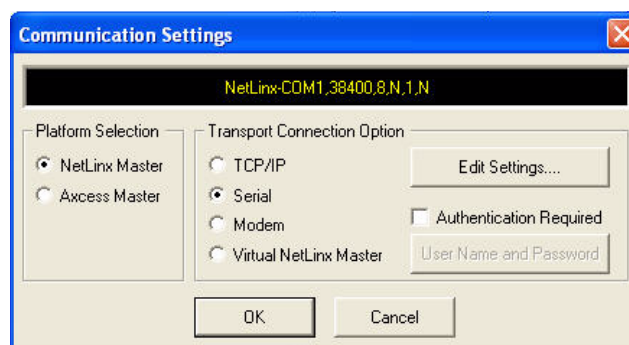

FIG. 39 Communications Settings dialog
3. Click the **Communications Settings** button to open the *Communications Settings* dialog (FIG. 39).